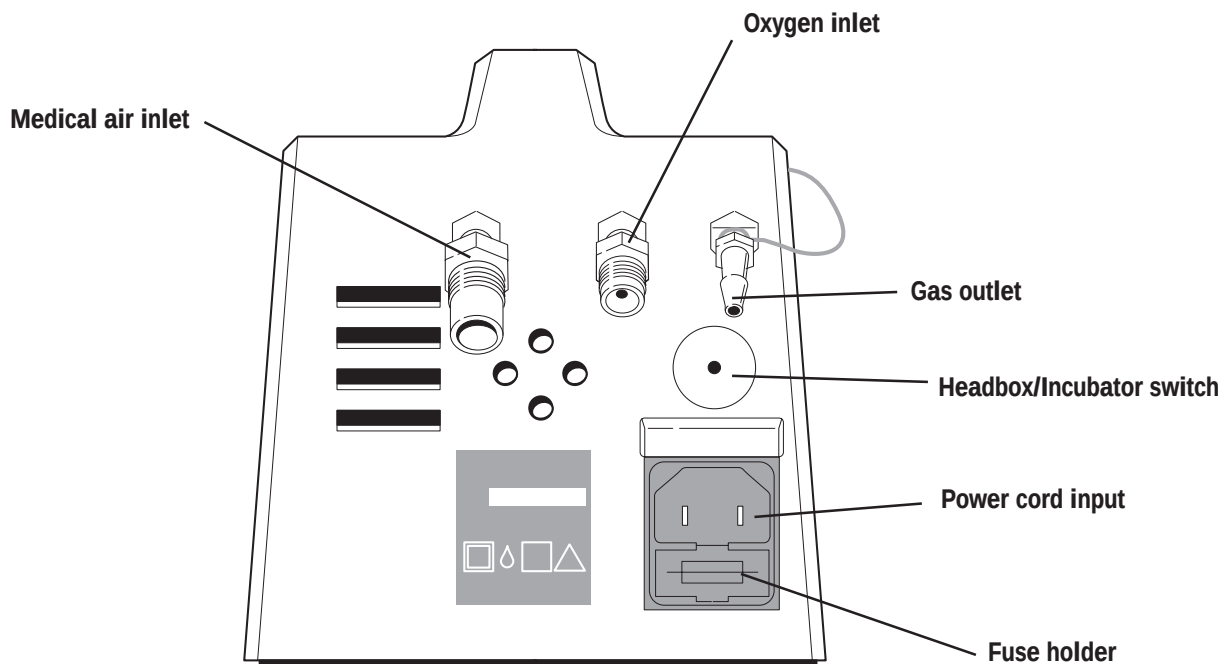

Figure 1-3
Incubator mode. To put the unit in Incubator mode press the metal switch on the back of the unit (see Figure 1-3) and insert mode key into the slots. When connected to an oxygen or air supply, the mode indicator on the lower left front of the unit will show a series of red dots to indicate the Incubator mode.
3. Connect oxygen and air supplies to the inlets on the back of the unit (See Figure 1-3). Gas supplies greater than 65 PSI require high pressure ServO₂ units (see page 5-4 in section 5/Illustrated Parts).
5. Connect an appropriate length of tubing to the output connector at the rear of the device (See Figure 1-3).